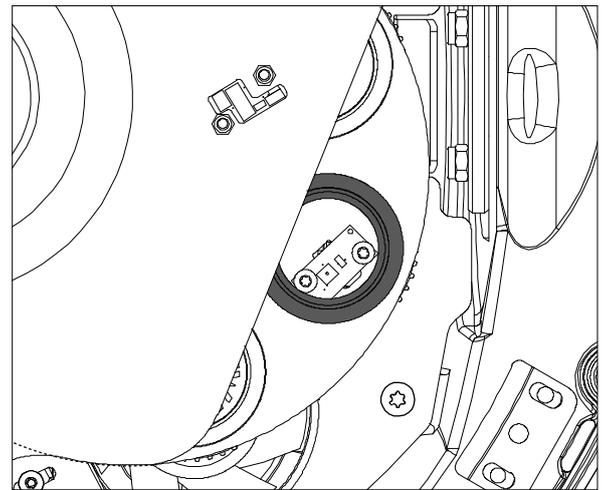

Figure 27: Turn the gobo to the position which is to be replaced
2. Turn the gobo wheel until the desired gobo wheel is accessible (see figure 27).